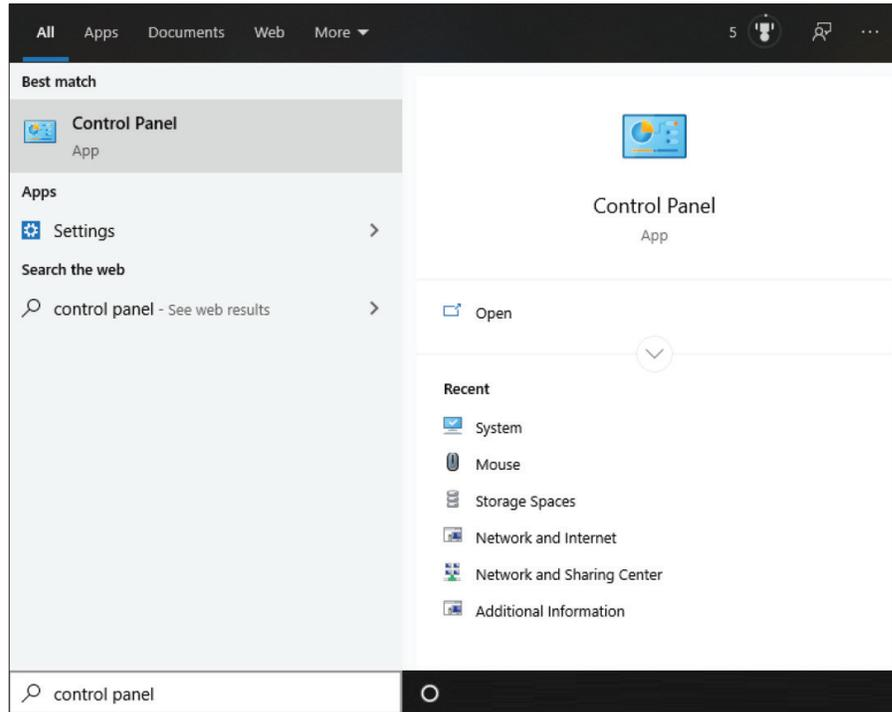

Figure 1
1. Perform a search in Windows for "Control Panel". (Figure 1)